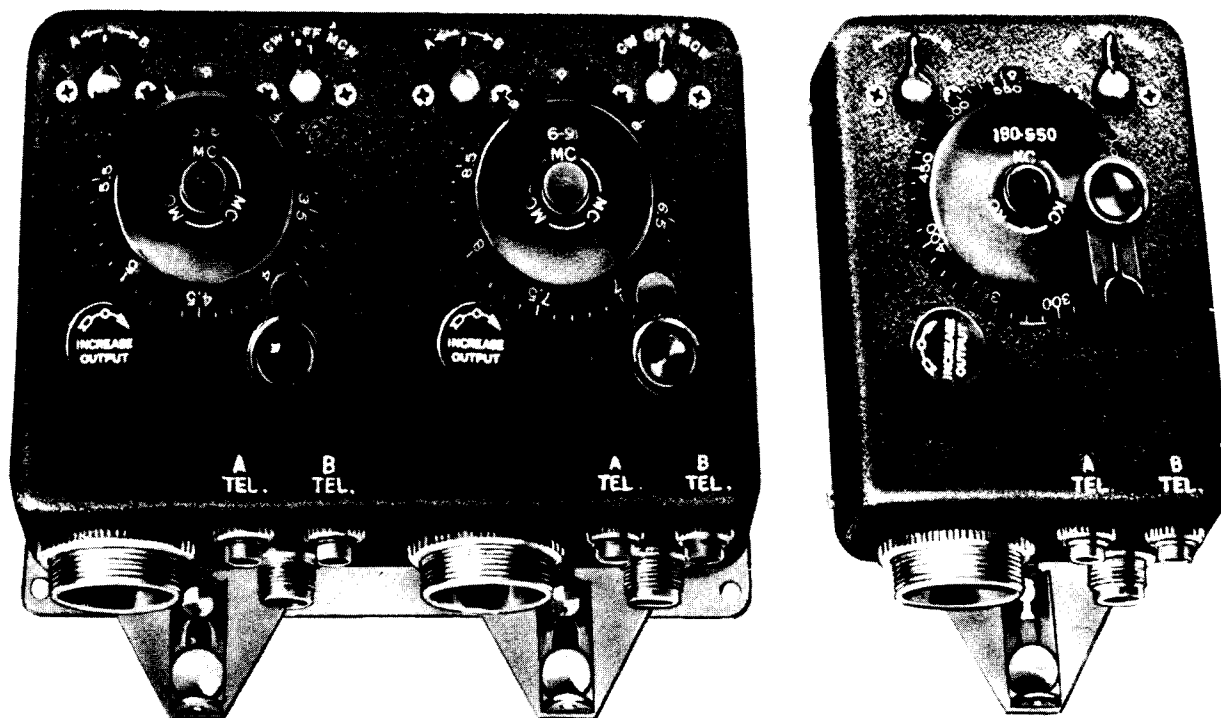

FIGURE 10 — LEFT, RADIO CONTROL BOX BC-496-A (FOR TWO RECEIVERS; RIGHT, RADIO CONTROL BOX BC-473-A (OR -B) (FOR ONE RECEIVER)
- (1) Radio Control Box BC-450-A provides for three radio receivers. It is shown in Figures 1 and 9, and a schematic circuit diagram of the electrical connections is shown in Figure 26. Radio Control Boxes BC-496-A and BC-473-A (or -B) provide for two and one receivers, respectively. They are shown in Figure 10. Practical wiring diagrams for the three units are shown in Figure 45. Electrically and mechanically,